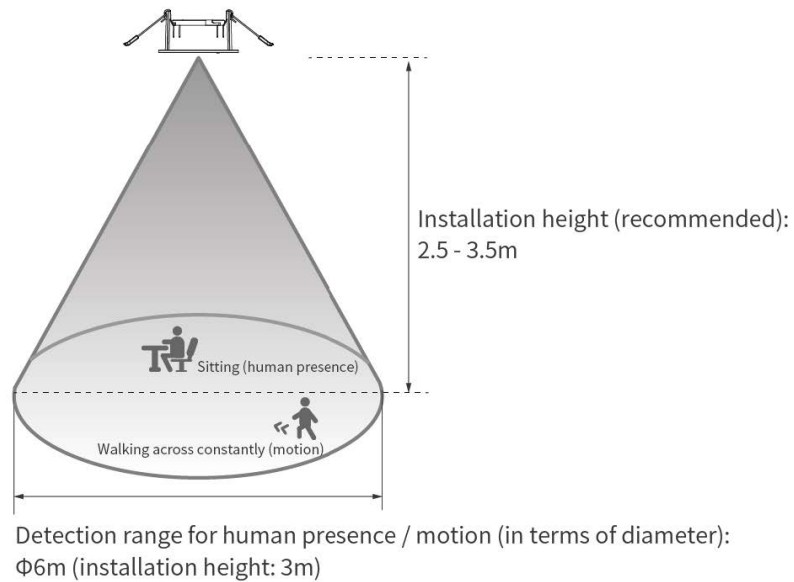

Figure 11
- The detection range data (shown in Figure 11) are for reference only and come from internal laboratory tests.